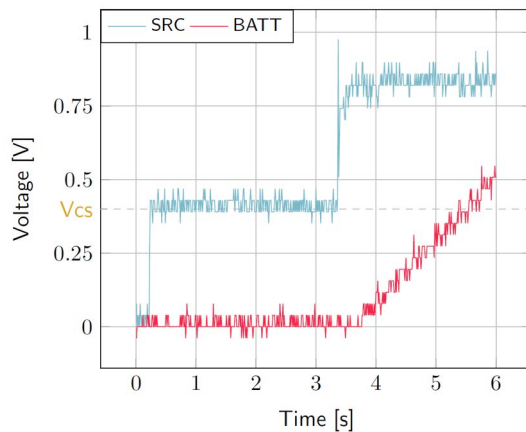

Figure 7: AEM30940 behavior during cold start
- **SRC**: Equal to the cold-start voltage during the cold-start phase. Regulated at the selected MPPT percentage of  $V_{OC}$  when cold start is over. (See Figure 7). Be careful that the cold-start phase time will shorten with the input power. Limit it to ease the observation.
- **BATT**: Starts to charge when the cold-start phase is over (see Figure 7).